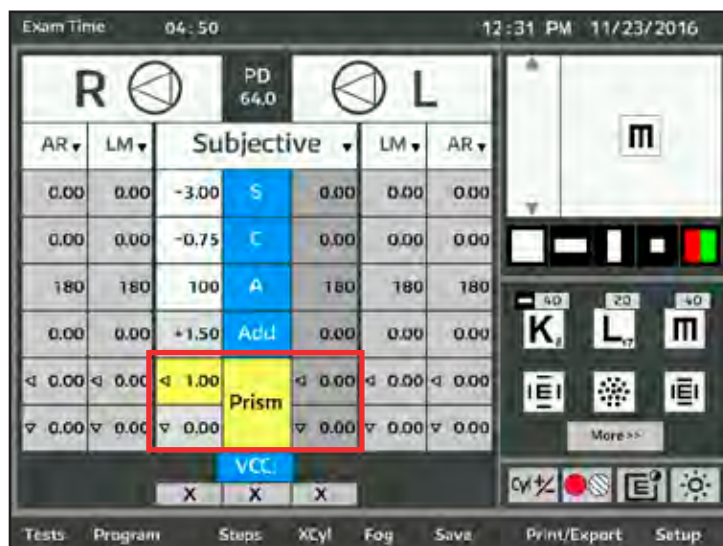

Figure IU-21 Adjust Prism Values
1. Touch **PRISM** to begin the Prism test. Refer to Figure IU-21.